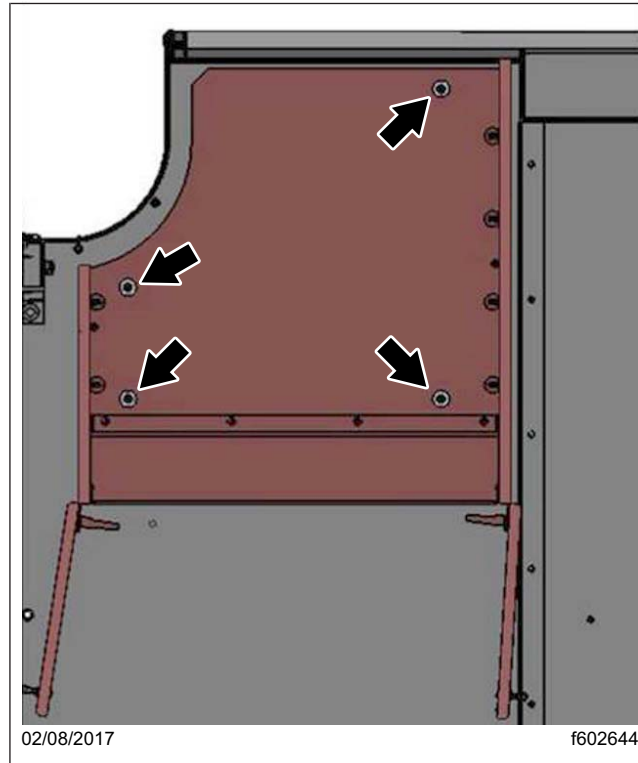

Fig. 7, RH Cabinet Floor Fasteners
- 5.3 Remove the screws and washers that attach the bottom of the cabinet to the cab floor. See Fig. 7.
- 30.4 Install the screws and washers that attach the bottom of the cabinet to the cab floor. See Fig. 7.